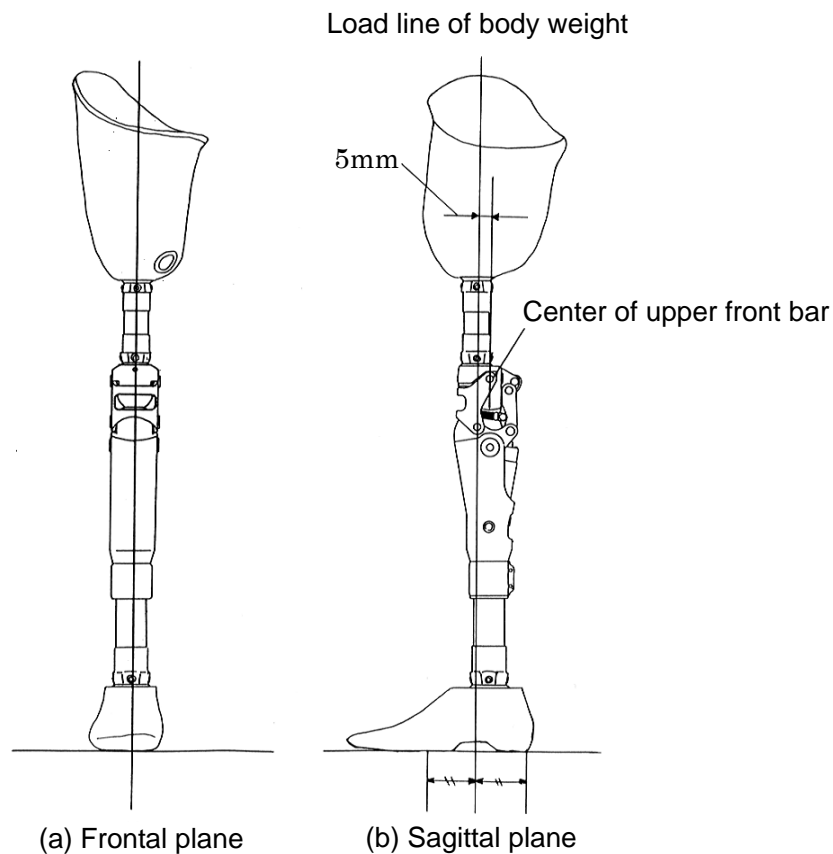

Fig.1 Basic alignment
When assembling the above-knee prosthesis using four-bar intelligent knee NI-C411 & NI-C421 the bench alignment can be set by taking the procedure given in the following. (see Fig.1.)
As shown in Fig.1 (a), set the alignment so that the load line of body weight passes the center of the knee and reaches the center of heel.
- As shown in Fig.1 (b), set the alignment so that the load line of body weight passes 5mm forward from the center of upper front bar and the midpoint between heel and toe-break. This shall be the basic alignment setting.